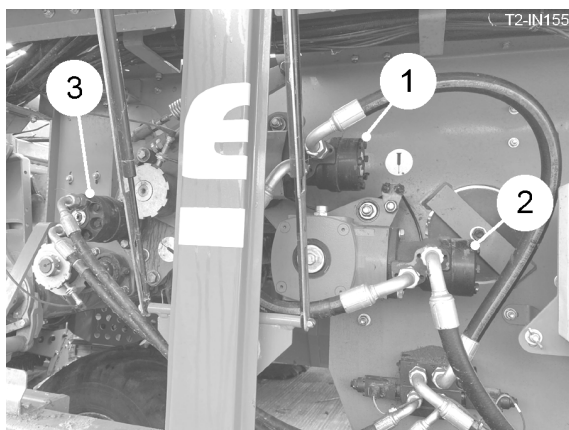
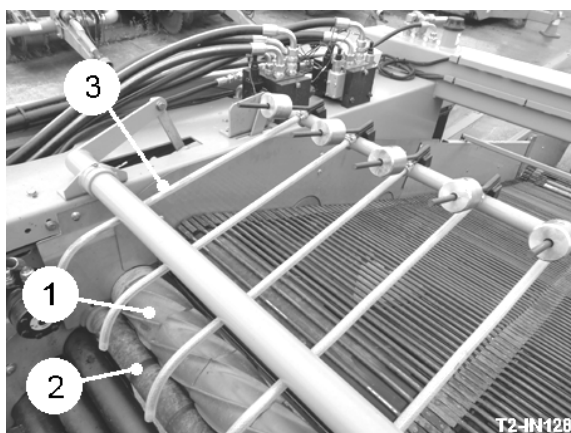
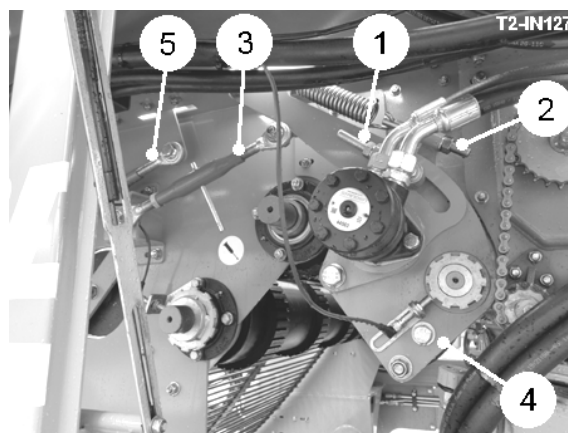

Fig 9
Fig 13
Fig 14
The 1630mm wide sieving web is available in 28mm, 32mm, 36mm, 40mm, 45mm and 50mm pitches to suit the crop and soil conditions being harvested. The sieving web drive uses the 'Standen Wrap Drive' configuration fitted with a reverse running assister drive on the return side. This gives a virtually slip-free drive under most conditions and eliminates web drive sprockets allowing for easy web pitch changes. The web is driven by two shaft mounted motor gearboxes. The hydraulic motor (item 1, fig. 9) drives the main drive shaft. The motor (item 2, fig. 9) drives the assister drive shaft.
The scroll shaft (item 1, fig. 13) transfers the crop over the haulm roller (item 2, fig. 13). The haulm roller is designed to pinch the haulm and trash and drop it onto the ground under the machine. The haulm roller is driven by the hydraulic motor (item 3, fig. 9). Haulm roller speed is controlled from the touch-screen. For some types of crop such as onions etc. it is advantageous to reverse the direction of rotation of the haulm roller. To reverse the haulm roller, simply press the button  on the touch-screen.
To increase/decrease the gap between the haulm roller and the scroll shaft, set the stop screws (item 1, fig. 14) equally on both sides of the machine. Check the setting by measuring the length of exposed thread. To increase/decrease the haulm roller spring tension, adjust the spring tensioner (item 2, fig. 14). Adjust both sides evenly.
Raising/lowering the haulm roller relative to the scroll alters the amount of material the haulm roller removes. The roller position is set by adjusting the turnbuckle (item 3, fig. 14). The higher the haulm roller is positioned relative to the scroll roller, the more material will be removed. Lowering the roller will allow the flow of material to pass over the top of the roller. Adjusting the haulm roller until the maximum amount of haulm is removed with the minimum amount of potatoes being pulled through or nipped requires careful setting. This setting will need to be altered for different crop conditions, but the initial setting should start with the roller well down and then gradually raising it up. For effective harvesting this is one of the most critical adjustments.
The haulm roller is fitted with a scraper (item 4, fig. 14). Set the scraper as close to the roller as possible without actually fouling it.
The function of the haulm fingers (item 3, fig. 13) is to catch the haulm and direct it down into the haulm roller. Moving the haulm fingers away from the scroll roller will allow a clearer flow for the crop. In green top or heavy trash it may be necessary to rotate some of the fingers out of the crop flow to prevent overloading of the haulm roller and excessive damage to the crop. By adjusting the turnbuckle (item 5, fig. 14) the fingers can be raised or lowered. A plastic sleeve is fitted to each finger. The sleeves prevent bruising of the potatoes and should be replaced when they wear through or are lost.